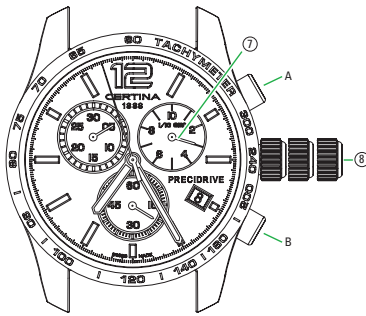

Fig. 1
- Time readout (as per example in Fig. 1)**
- Time 1 readout (as per Fig. 1)**